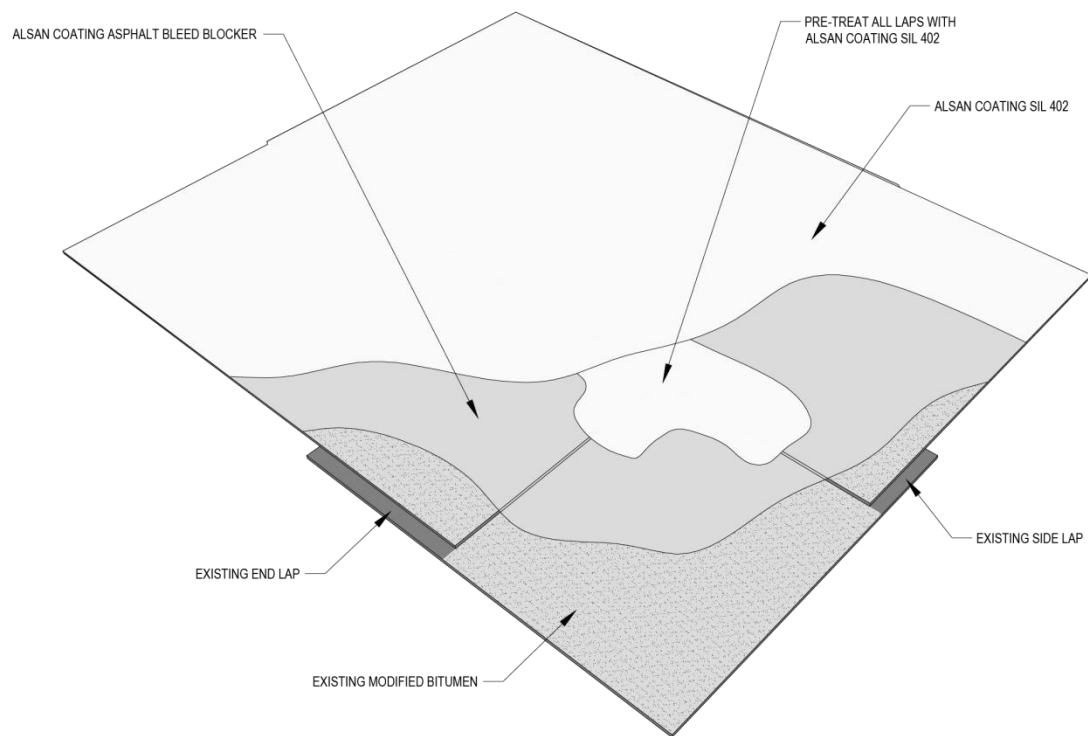

Figure 2.1a Silicone Roof Coating Over SBS Modified Bitumen, Side/End Laps
- Refer to flashing detail guidelines indicated in Figures 2.1a through 2.1d.
- For ALSAN® COATING SIL 402 flashing detail guidelines, refer to Figures 2.1a through 2.1t.